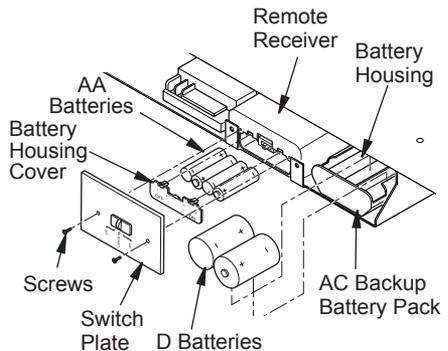

Figure 31 - Installing Receiver Batteries (Included)
2. Remove switch plate from receiver (see Figure 31).
3. Remove battery housing cover on remote receiver to expose battery housing (see Figure 31).
4. Install 4 AA batteries into housing following positive and negative directions on battery housing cover removed in step 3 (see Figure 31).